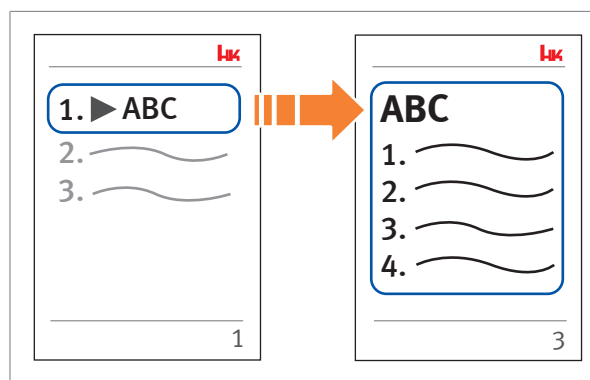

Fig. 2: Example of a cross reference between sections
- Cross reference between individual sections are marked with the symbol ► (Fig. 2).